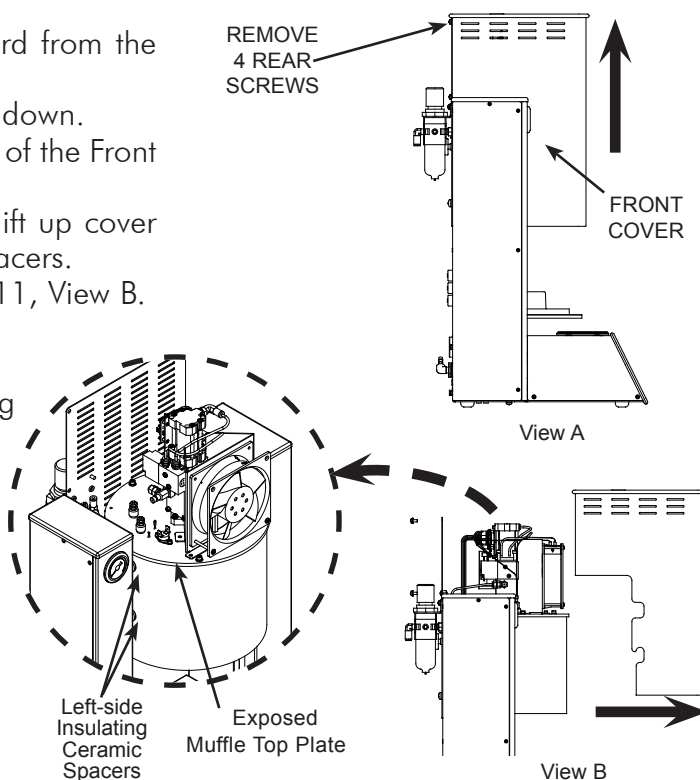

Figure 11. VIP Furnace Front Cover Removal
4. Remove the 4 rear screws securing the rear of the Front Cover as shown by Figure 11, View A.
5. Refer to Figure 11, View A, and carefully lift up cover enough to clear the Insulating Ceramic Spacers.
6. Tilt cover and remove Front Cover. Figure 11, View B.